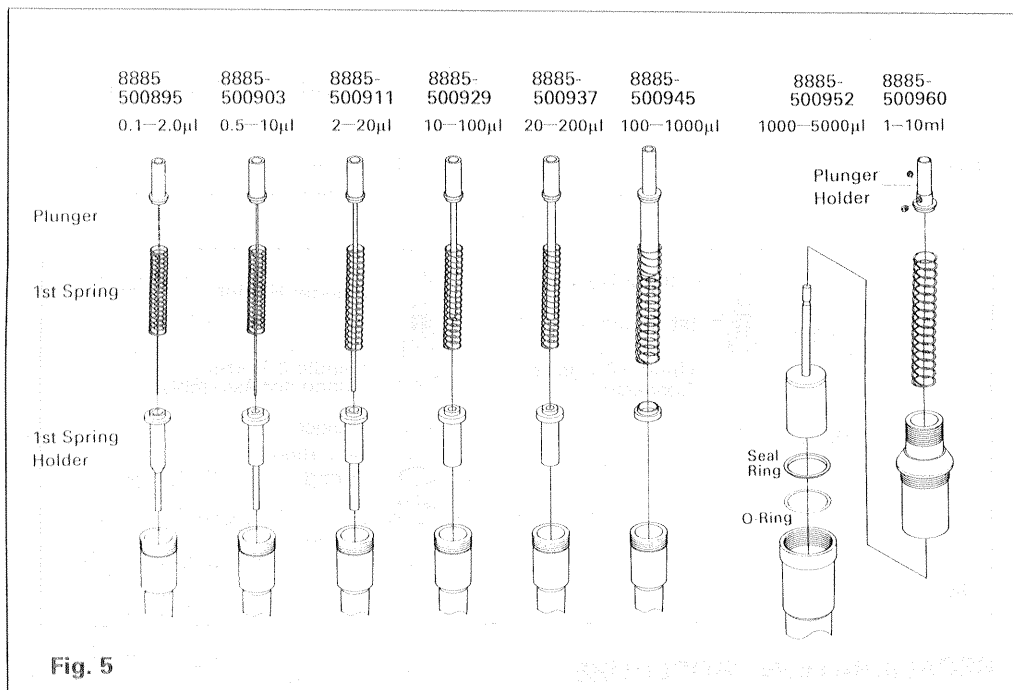

Fig. 5
2. Unscrew the barrel and remove from the handle by turning counter-clockwise carefully. The plunger assembly and spring can also be removed from the pipette at this point. Refer to Fig. 5 for the internal configurations of each pipettes. Take special care not to bend the piston plunger, especially in the smaller volume pipette.
4. Reassemble the unit by reversing the above procedures. Refer to Fig. 5 when reassembling to ensure that all parts are placed in the correct position.
4. Remove the plunger holder from the plunger by loosening the two screws on the plunger holder. At first, the spring and the plunger assembly will come out from the plunger and barrel assembly. (Fig. 5)